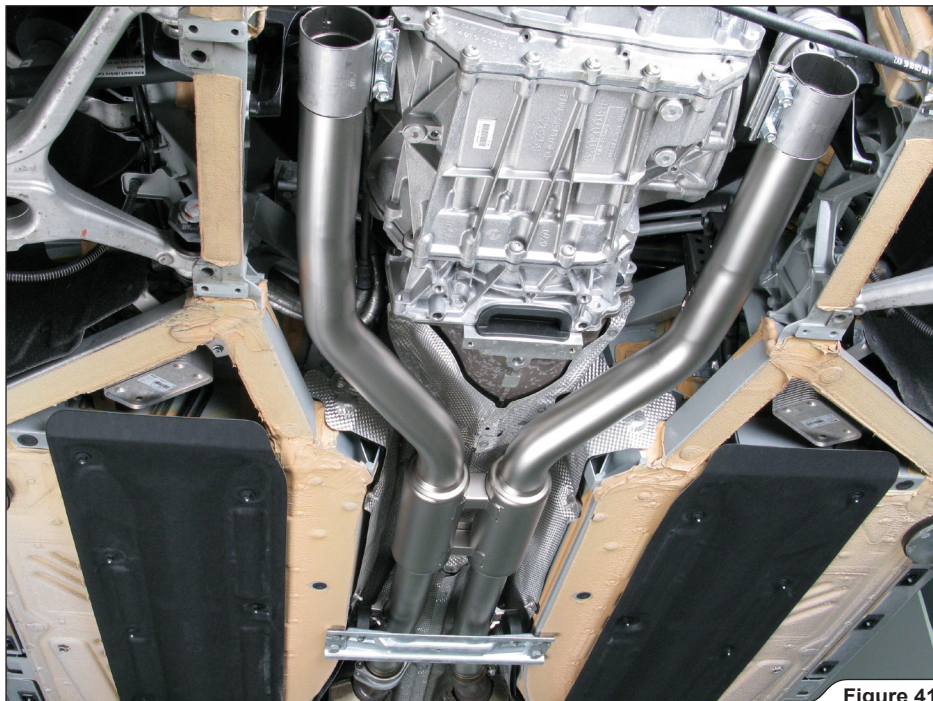

Figure 41
12. Assemble the Akrapovič Middle Pipes onto the stock down pipes, using original clamps, bolts and nuts. Install stock exhaust brackets and tighten marked bolts and nuts to a specified torque (Figure 41, 42, 43).